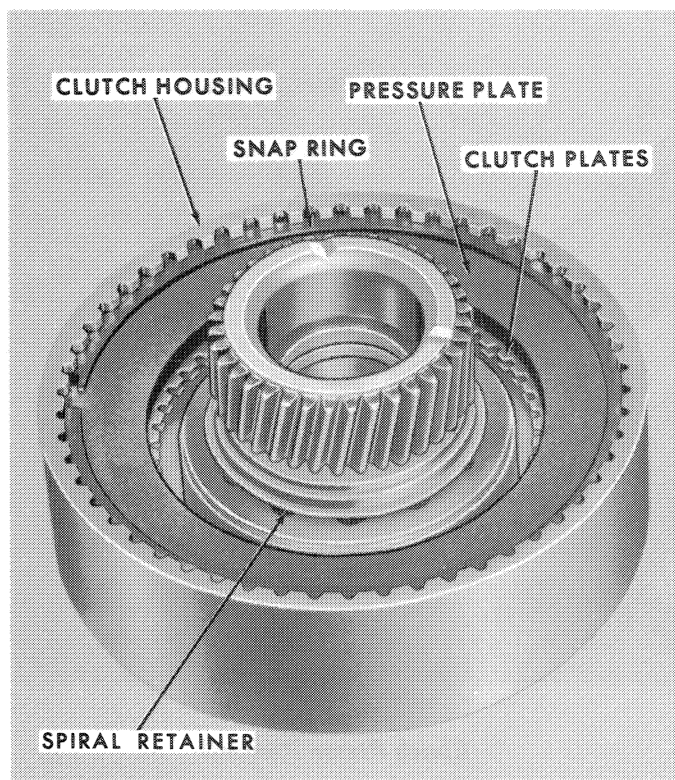

Figure 88
1. Remove the large snap ring from the inside of the clutch housing, Figure 88, and lift out the pressure plate and the four clutch plates.